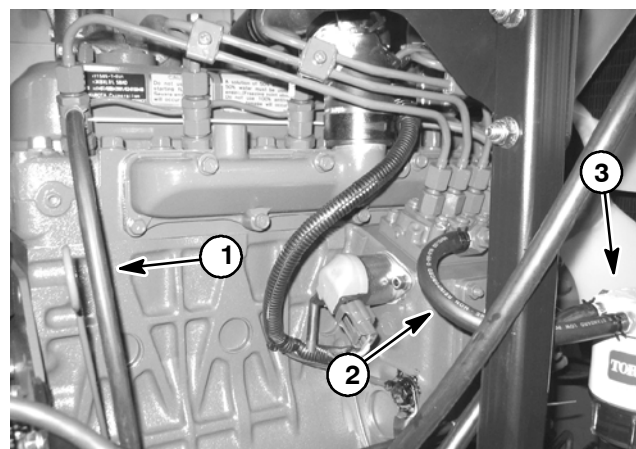

Figure 11
- B. At injector pump, loosen hose clamp and disconnect supply fuel hose from the injector pump fitting (Fig. 11).
- C. Loosen hose clamp and disconnect fuel return hose from front injector body (Fig. 11).
D. Insert cap screw down through each engine bracket and mount. Place spacer, snubbing washer and then flange nut on four (4) cap screws. Tighten fasteners to secure engine to engine mounts.
- A. Connect fuel supply and fuel return hoses to engine fittings (Fig. 11). Secure with hose clamps.